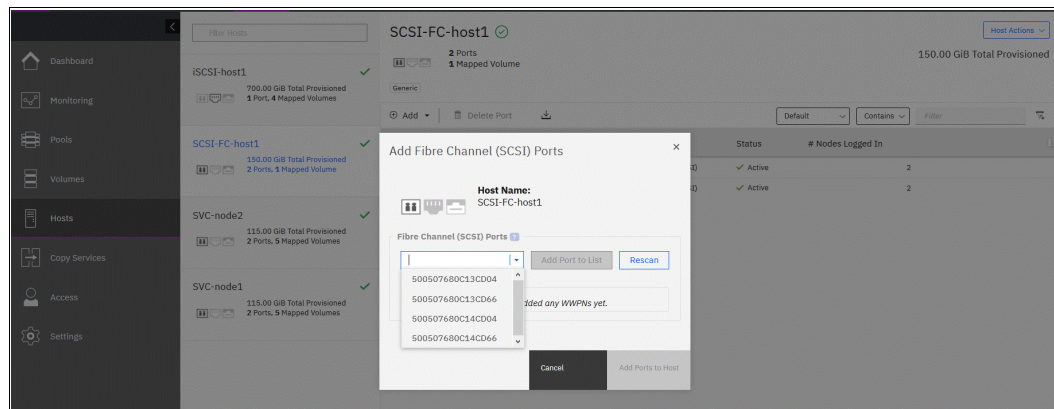

Figure 7-69 Add Fibre Channel (SCSI) Ports window
3. The Add Ports dialog box opens (see Figure 7-69).